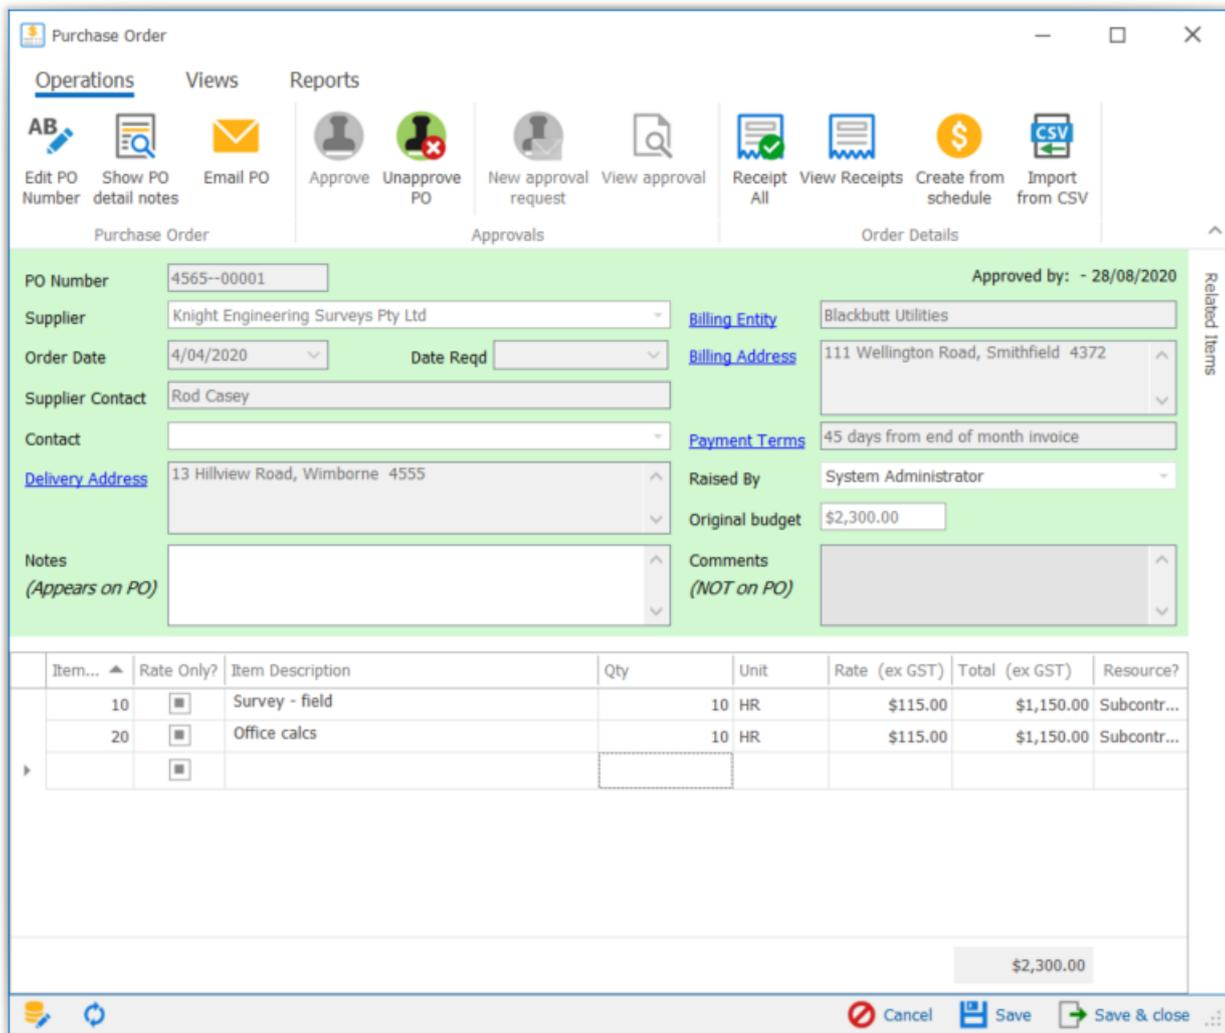

Figure 53 Approved PO
7. The approved purchase order will now have a green background and will now look like Figure 53.